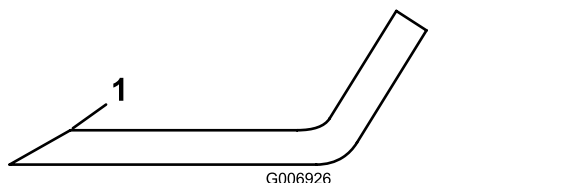

Figure 70
5. Inspect the cutting edges of all blades. Sharpen the cutting edges if they are dull or nicked. Sharpen only the top of the cutting edge and maintain the original cutting angle to make sure that it is sharp (Figure 70).
6. If dull or nicked, sharpen only the top cutting edge while maintaining the original cutting angle (Figure 70).